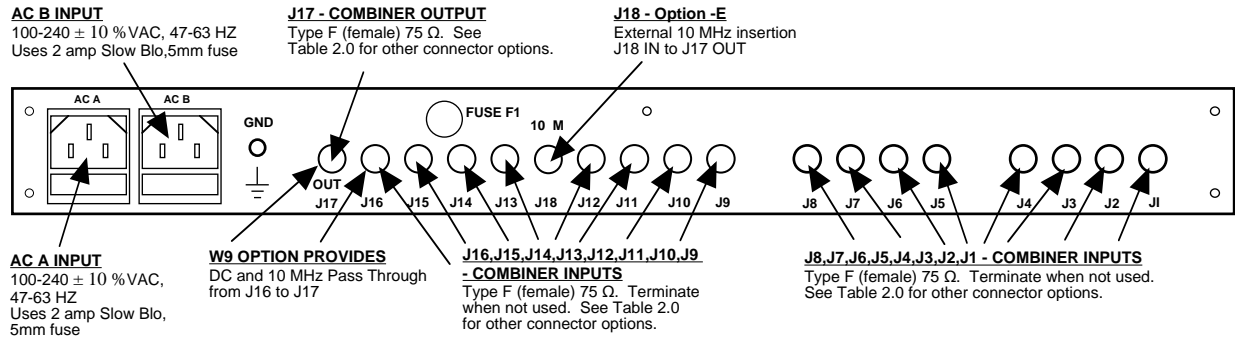

FIGURE 2.1 1584-161 REAR PANEL
2.1 Mechanical - The 1584-161 consists of one RF printed circuit board (PCB) housed in a 1 RU (1 3/4 inch high) by 12 inch deep chassis. Redundant, switching, +24 VDC power supplies with the DC output diode OR'd provide redundant power for the internal and external amplifiers and LEDs. Connectors are type F, female for the RF connections (BNC, female option -B or -D). The 1584-161 can be secured to a rack using the 4 holes on the front panel. Figure 2.1 shows how the 1584-161 is assembled. J25 connects DC Power to the fuse as shown and J30 and J29 connect the DC voltage from the power supplies to the PCB as shown.
The input and output connectors on the rear panel are shown in Figure 2.1.